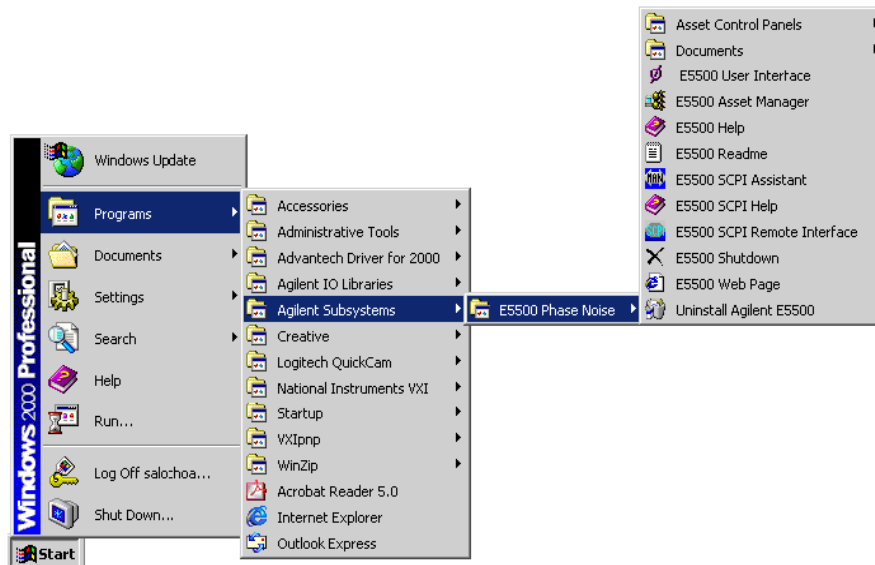

Figure 1-28 Navigate to E5500 Asset Manager
- 2 Referring to Figure 1-28, navigate to the **E5500 Asset Manager**.